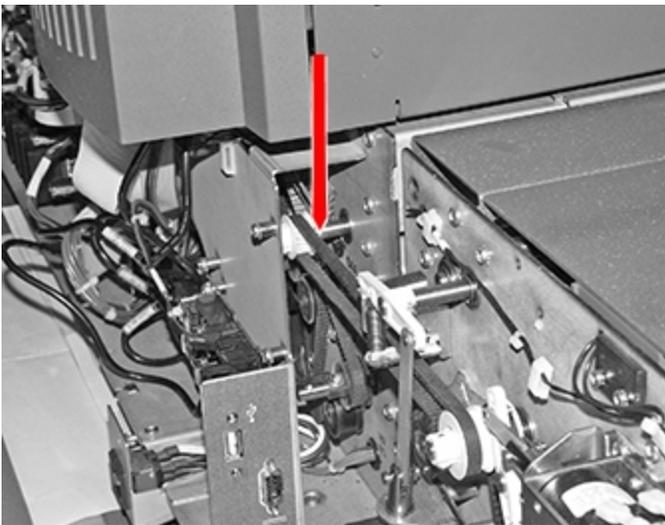

Figure 19 HCSF Drive Belt
- b. Position the belt around the upstream input drive pulley as shown in Figure 19.